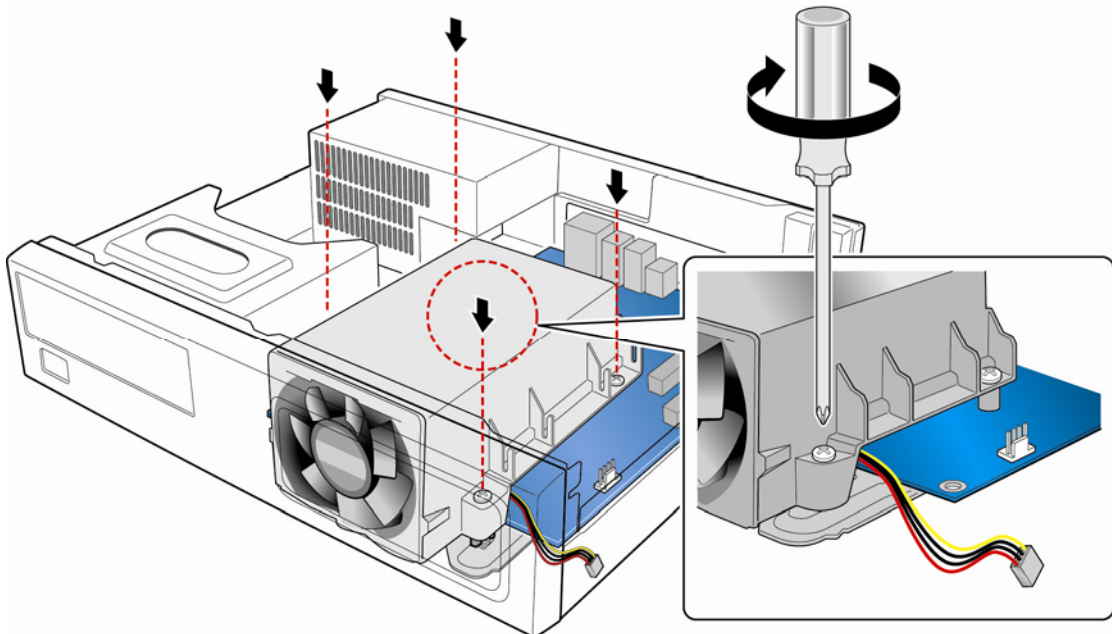

Figure 14. Secure the Thermal Module
4. Tighten the captive screw at each corner of the Thermal Module (see Figure 14). The screws may be tightened in any order.